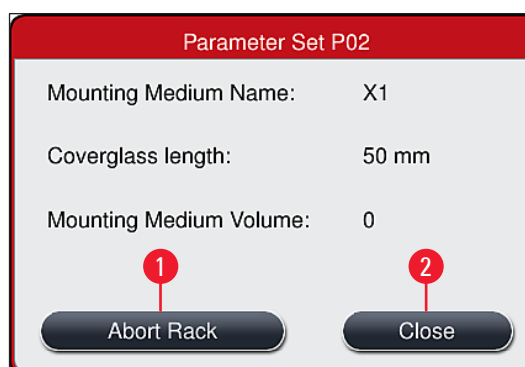

Fig. 80
2. An overview appears of the rack for which the process is being canceled (→ Fig. 80).